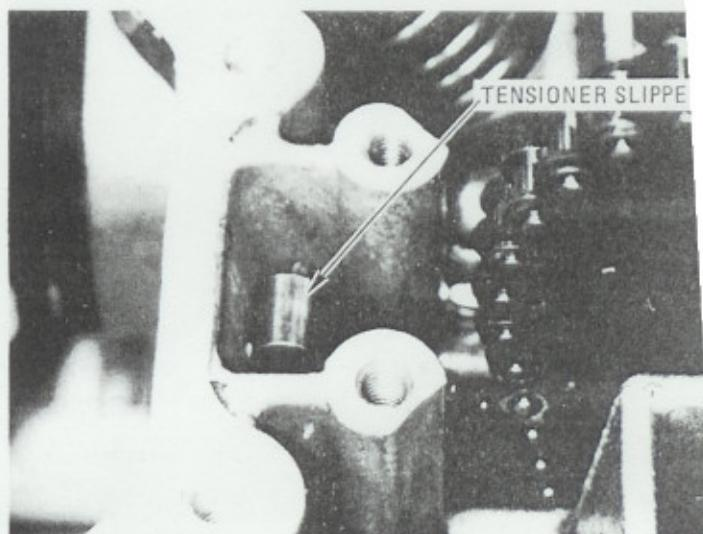

FIG. 17
- Check tensioner slipper height (Fig. 17). The upper edge of the slipper should be below the upper surface of the cylinder head. If the slipper is not in this position, remove and reinstall.